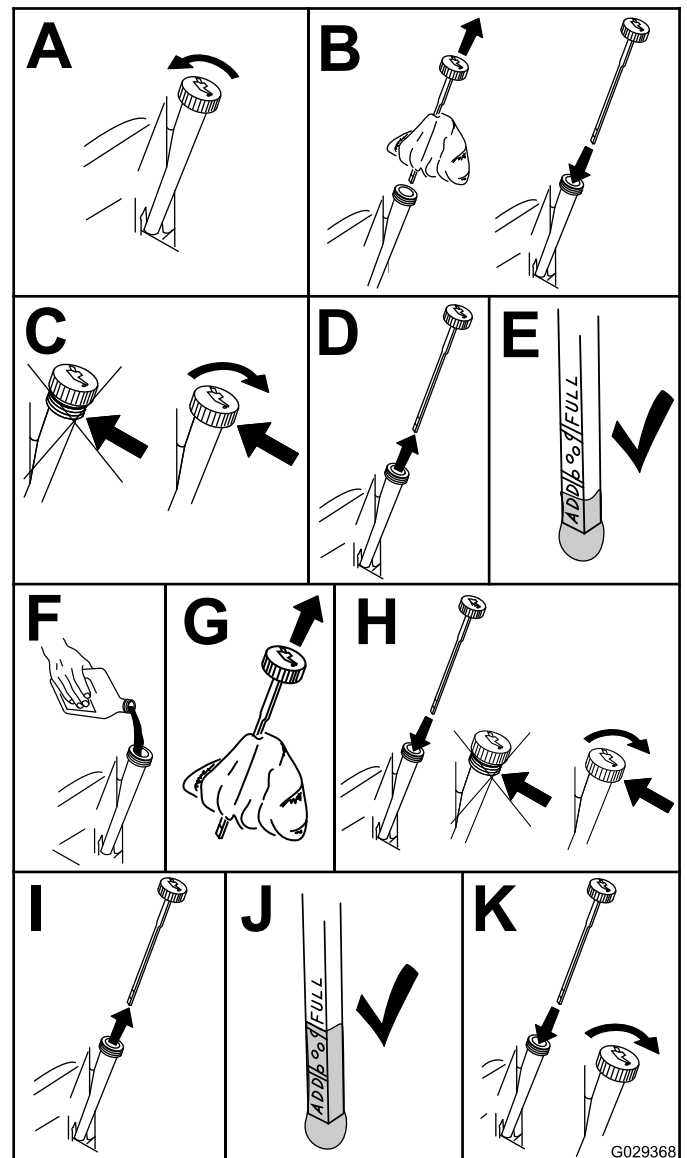

Figure 31
4. Check the engine-oil level (Figure 31).